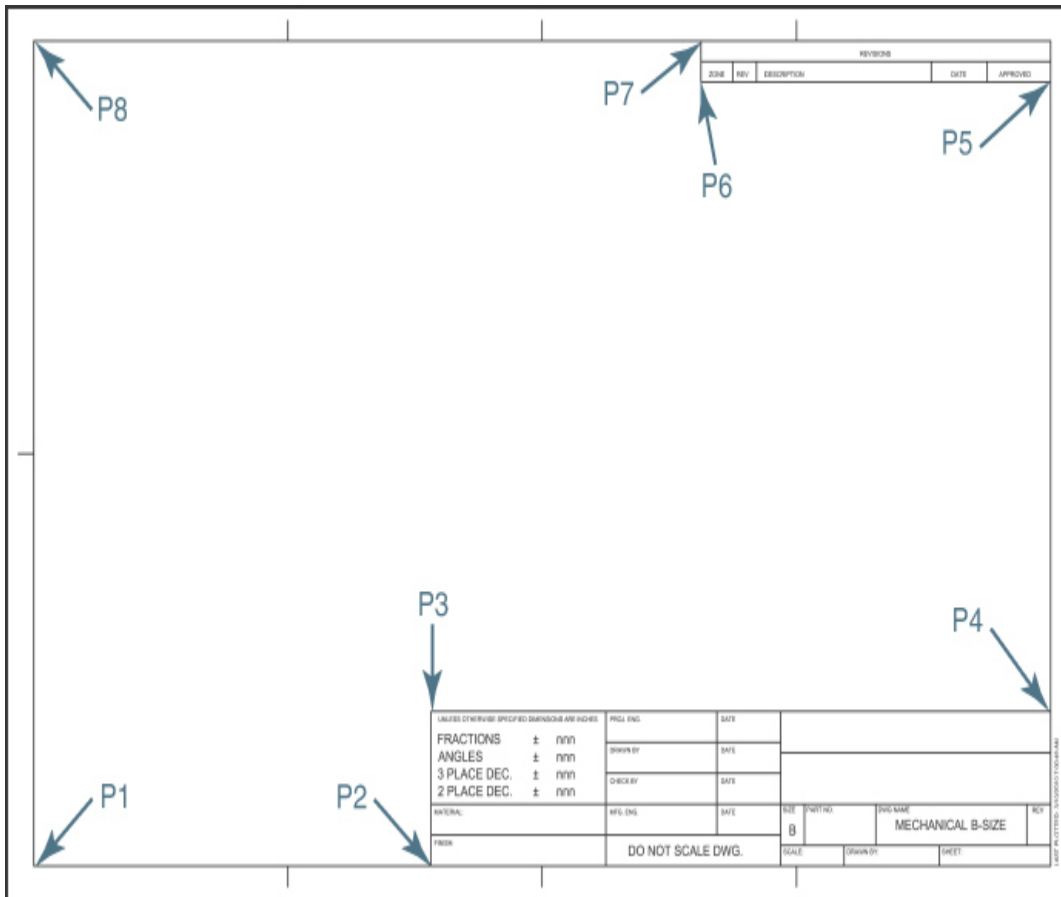

Figure 14-49
9. Create a polygonal viewport on layer **Viewport** at the inside border edges as shown in Figure 14-49.